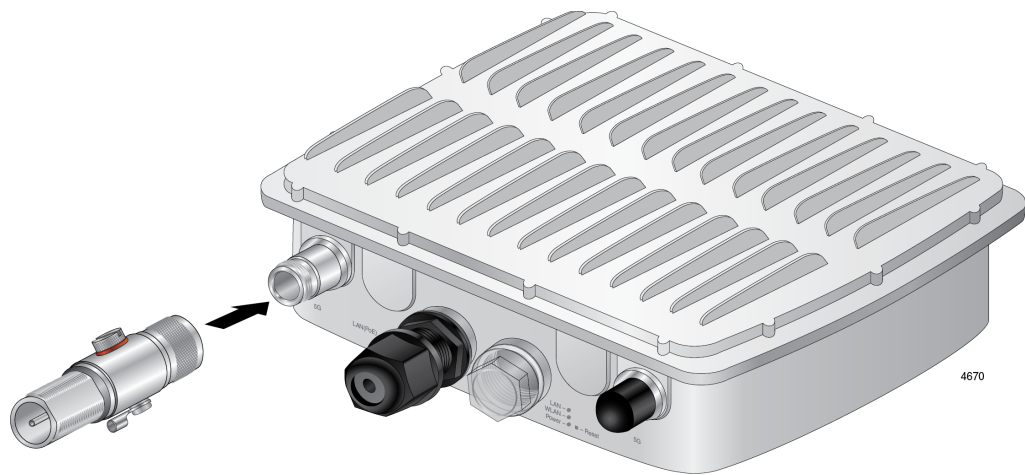

Figure 15. Attaching a Surge Protector to an Antenna Connector
2. Screw a surge protector to an antenna connector. See Figure 15.